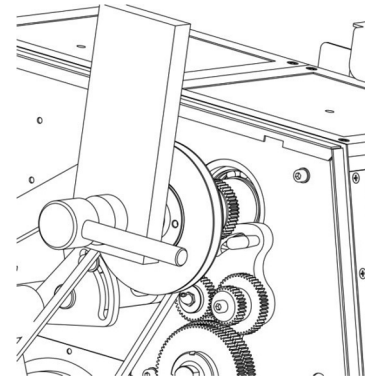

Figure 36
6. Place a wooden block over the outboard end of the spindle, and hit it soundly with the heavy dead blow hammer (see Figure 36).